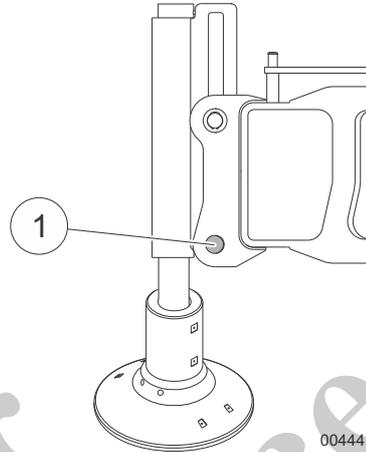

Fig. 139 Removing the pin from the outrigger cylinder
9	Retract the outrigger cylinder using the remote radio control until the pin (1) in Fig. 139 can be inserted into the bottom hole.